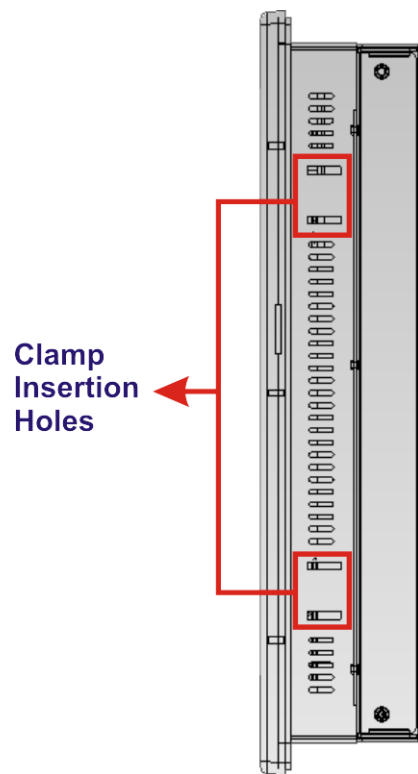

Figure 5-7: Clamp Insertion Holes
Step 4: Insert the panel mounting clamps into the pre-formed holes along the edges of the monitor, behind the metal frame. **Figure 5-7** shows the location of clamp insertion holes on one side of the LCD monitor. Refer to **Table 2-2** for the mounting clamps required for each model.